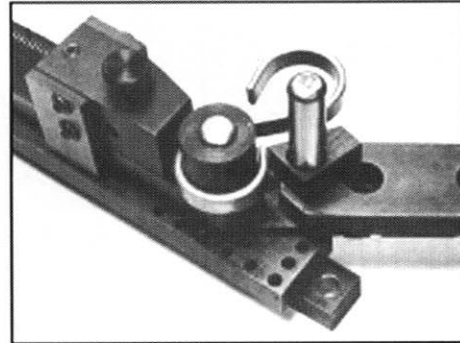

Figure 9
5. Leaving the handle in the left most position, move the material so that the first loop is on the angled side of the vise's jaw and the edge of the stock is even with the edge of the circle as shown in Figure 9.